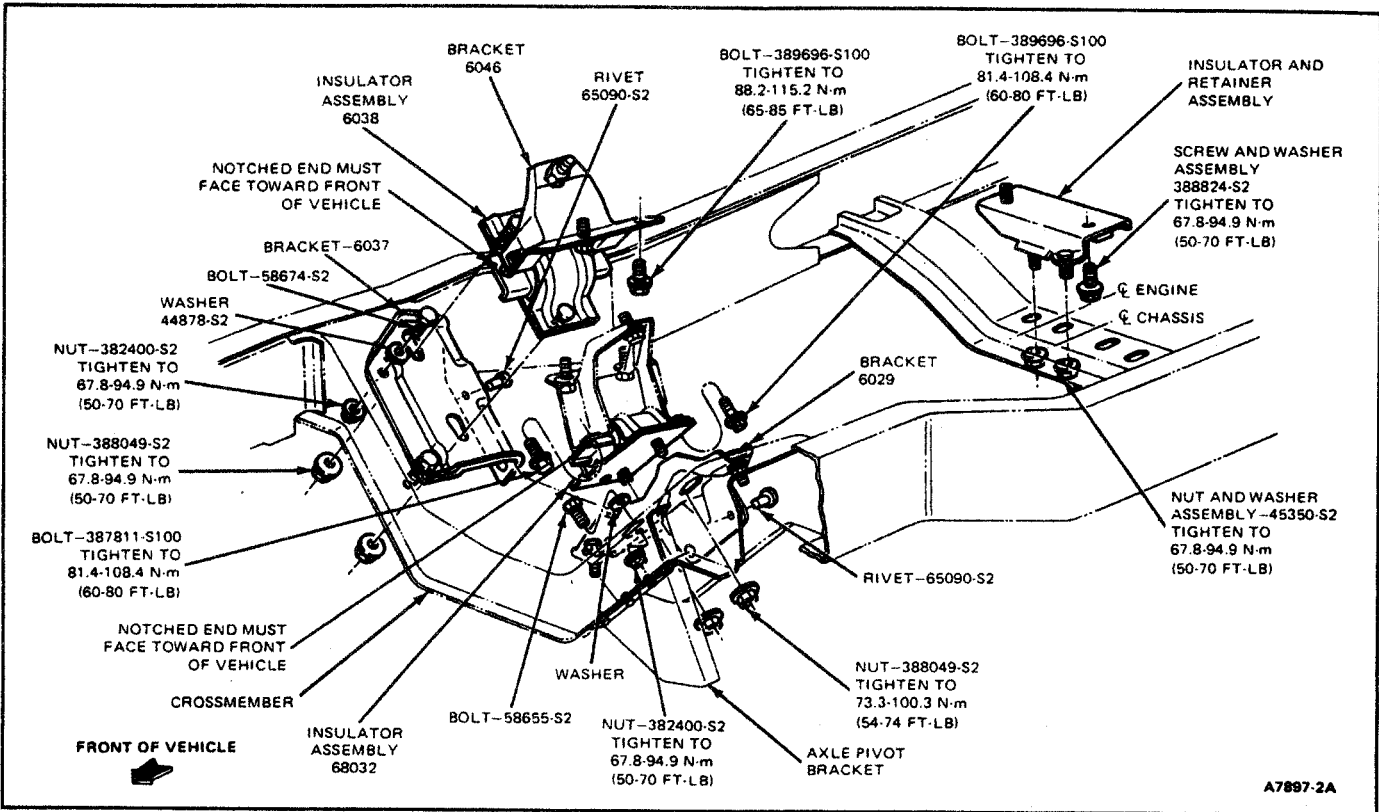

FIG. 27 Engine Insulators—E-250—E-350
21. Remove nuts attaching insulators to No. 1 crossmember (Fig. 27).
1. Install insulator to bracket and tighten to specifications (Fig. 27).